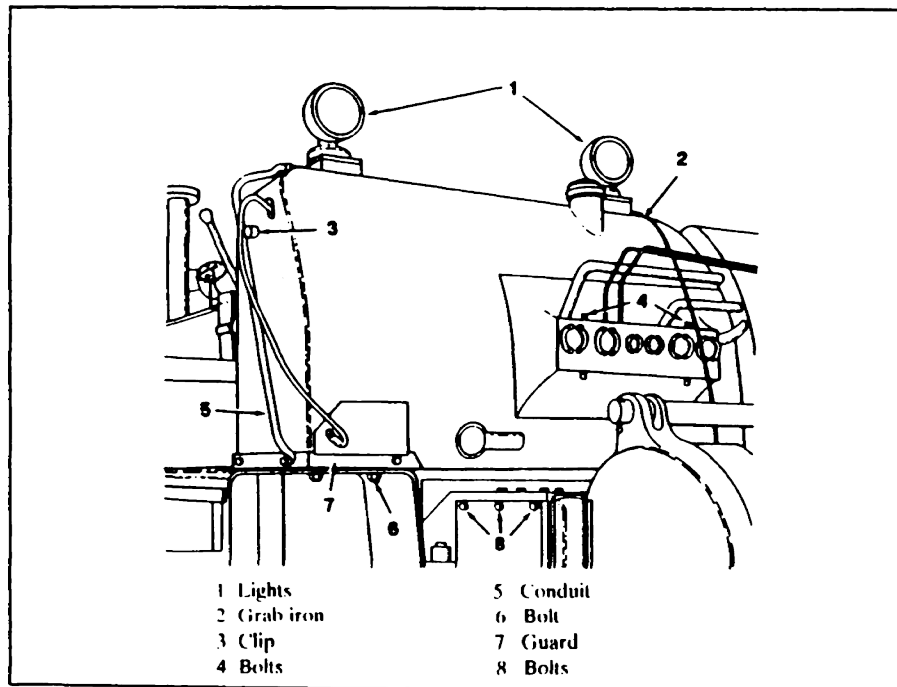

FIGURE 32. FUEL TANK INSTALLATION
Step 3. Install the mounting bolts (8, Figure 32) and bolts (4, Figure 32).
Step 8. Remove the eyebolts placed in the light brackets for lifting. Install the lights and connect the light wires to the lights (5, Figure 32).